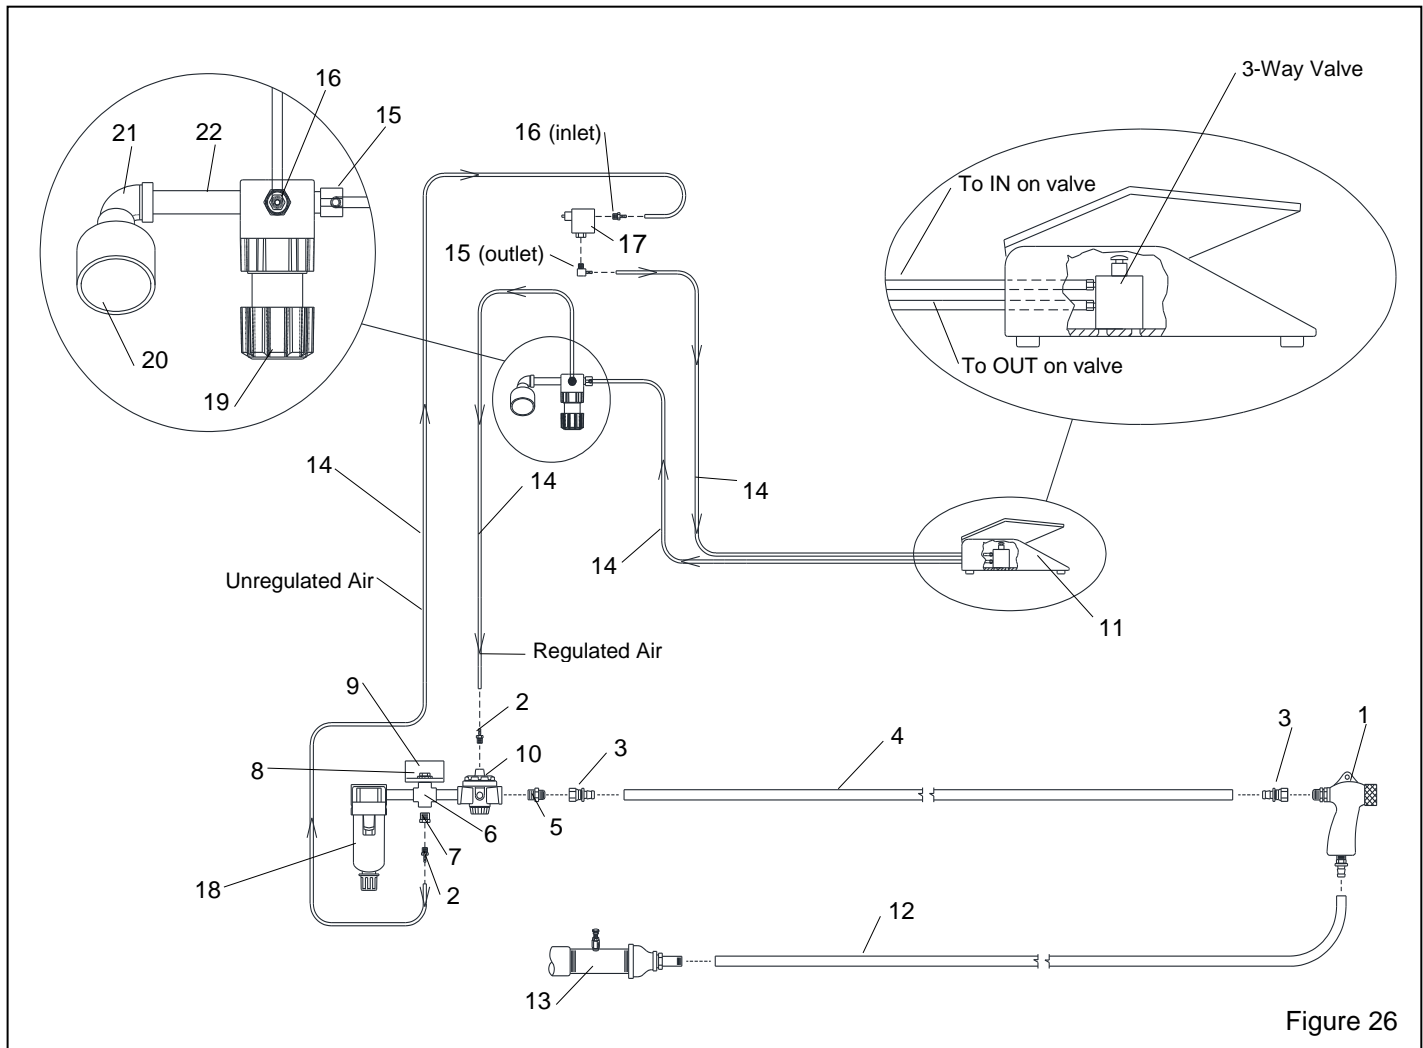

Figure 26
11.7 Air and Gun and Feed Assembly – Figure 26